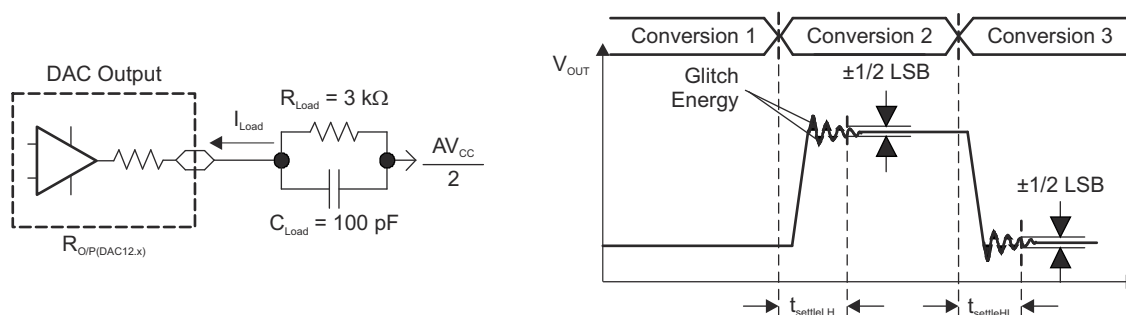
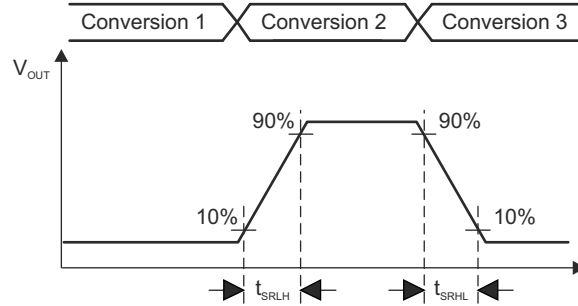

图 8-19. Settling Time and Glitch Energy Testing
图 8-20. Slew Rate Testing
VREF = VCC, DAC12IR = 1 (see Figure 8-19 and Figure 8-20), over recommended ranges of supply voltage and operating free-air temperature (unless otherwise noted)
| t ON DAC12 on time                   | DAC12_xDAT = 800h, Error V(O) < ±0.5 LSB (1) (see <a href="#">Figure 8-19</a> ) | 2.2 V, 3 V      | 60   |     | 120  | μs   |
(1) RLoad and CLoad connected to AVSS (not AVCC/2) in Figure 8-19.
(2) Slew rate applies to output voltage steps ≥ 200 mV.